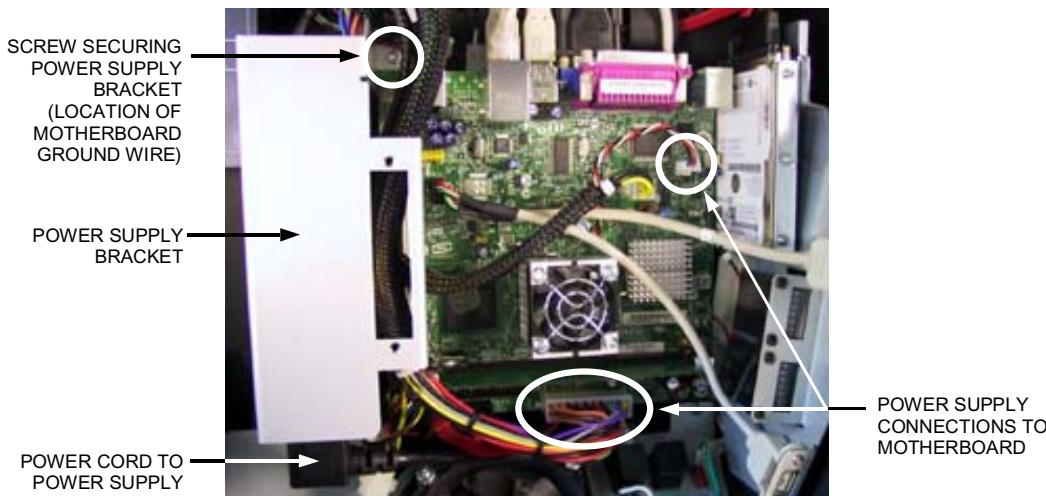

FIGURE 1 - TOP VIEW OF POWER SUPPLY & MOTHERBOARD
4. Remove the screw securing the power supply bracket and motherboard ground wire (see Figure 1), then lift the bracket from the front to remove it from the system.
5. Noting where the connections are, disconnect the power supply from the 2 places where it is connected to the motherboard (see Figure 1).
6. Remove the power cord from the rear of the power supply (see Figure 1), then remove the power supply from the system.
1. Connect the power cord to the rear of the new power supply, then position the power supply in the unit with the power cord facing the rear of the system (see Figure 1).
2. Replace the 2 connections from the new power supply to the motherboard (see Figure 1).
3. Replace the power supply bracket on top of the power supply. While doing so, be sure to route the wires running from the power supply in the manner shown in Figure 1.
4. Screw the power supply bracket into place to secure it. Make sure that this also connects the motherboard ground wire (see Figure 1).